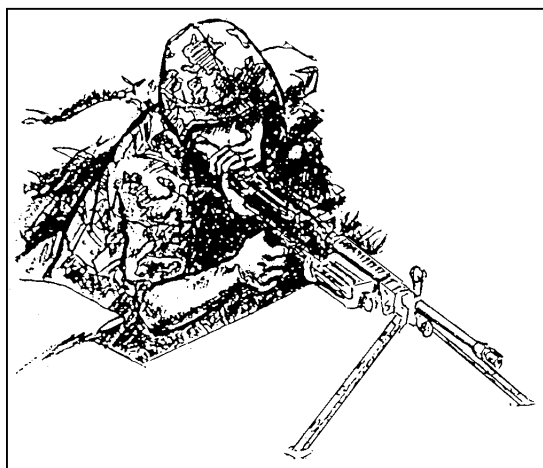

Figure 4-4. Fighting position, bipod-supported.
(1) Extend the bipod legs and place the machine gun in front of the position.
(2) Place your right (firing side foot) foot sideways against the rear of the fighting position and lean forward until your chest is squarely against the forward wall.
(3) Raise the folding shoulder rest and place it on your firing shoulder (M249 and M60 only). Keep your shoulders level or parallel to the ground.
(4) Grasp the pistol grip with your firing hand. place the fleshy end of the index finger resting lightly on the trigger. Place your nonfiring hand on the small of the stock and ensure that your thumb is curled underneath.
(5) Place your cheek against the forefinger of your nonfiring hand to form a stock weld. Try to position your nonfiring hand and cheek at the same spot on the stock each time you fire the weapon. The stock weld should provide for a natural line of sight through the center of the rear sight aperture to the front sight post and to the target. Relax your neck so that your cheek rests on your forefinger naturally.
(6) Apply a firm, steady pressure rearward and down, holding the weapon tight into the hollow of your shoulder while aiming and firing.
(7) Keep your shoulders level and elbows about an equal distance from the receiver of the weapon (Figure 4-4).